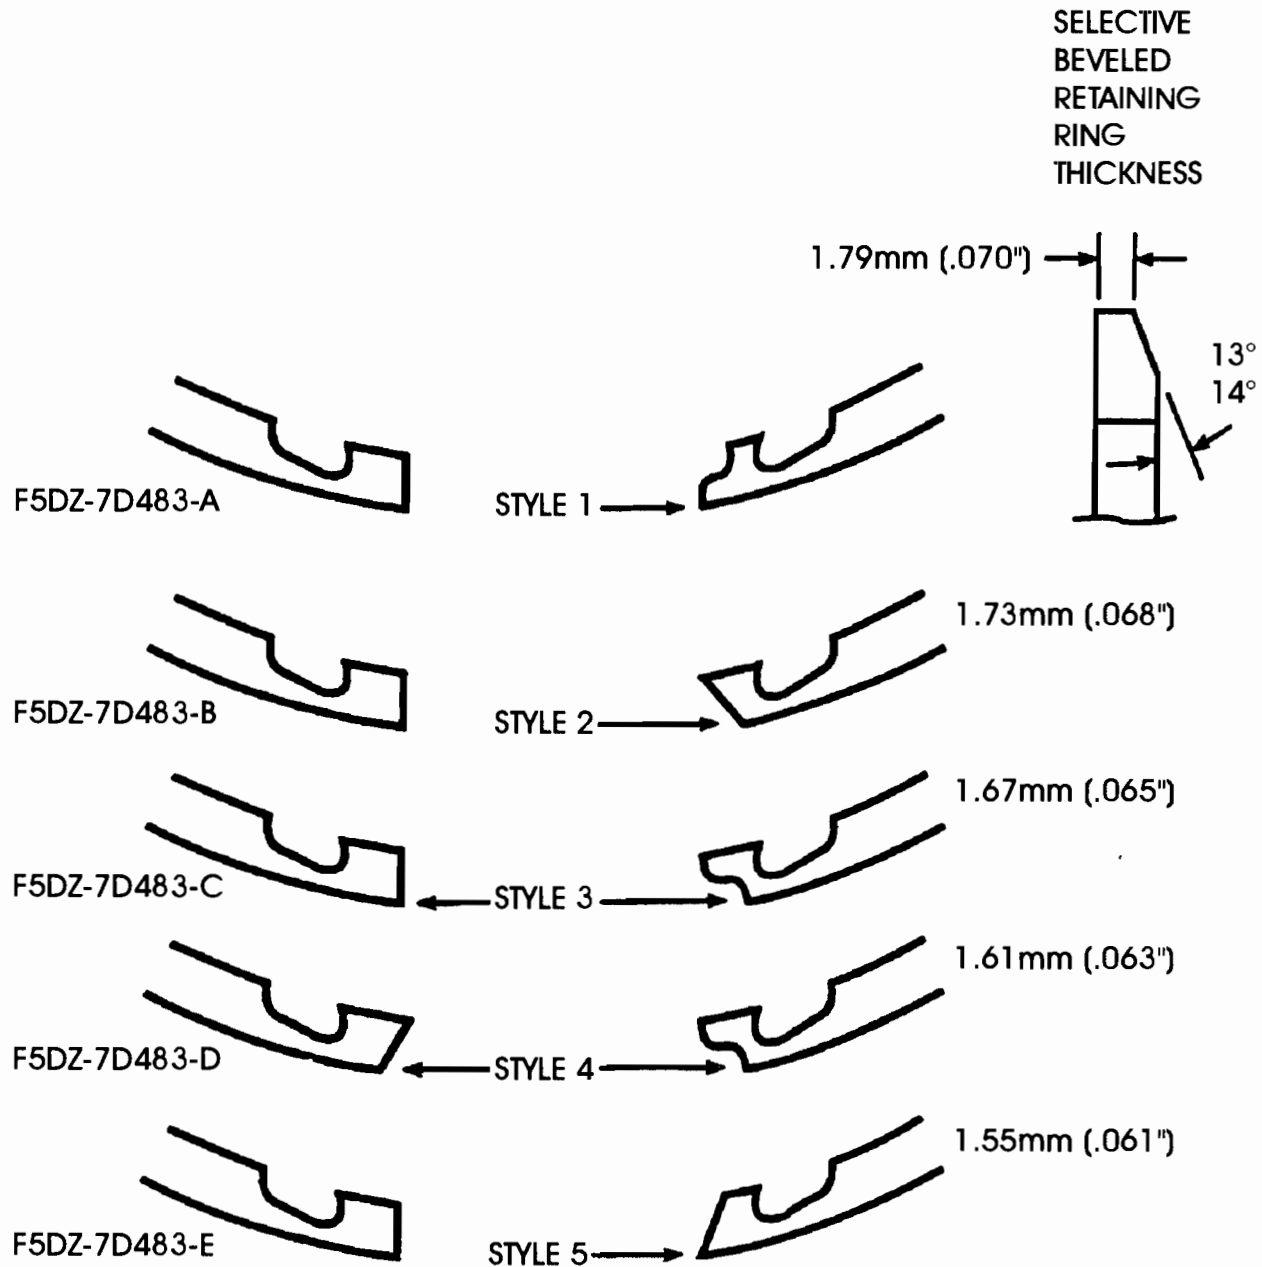

Figure 18
*Service* snap rings (Ordered thru Parts Dept.), have a different "Notch" profile, and a different configuration than the originals, on the end of the snap ring to identify the five different selective thickness snap rings as shown in Figure 18.
5. Obtain a new *service part* beveled snap ring, with notches (See Figure 18), with the same thickness as the original beveled snap ring, and install the new snap ring using the retaining ring pliers.